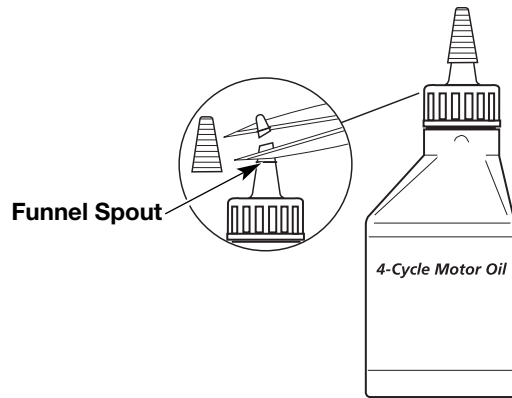

Fig. 5
Your unit is supplied with one 3.04 fluid oz. (90 ml.) bottle of SAE 30 SF, SG, SH oil (Fig. 5).
1. Unscrew the oil bottle top and remove the paper seal covering the opening. Replace the top and cut the tip off the funnel spout (Fig. 5).